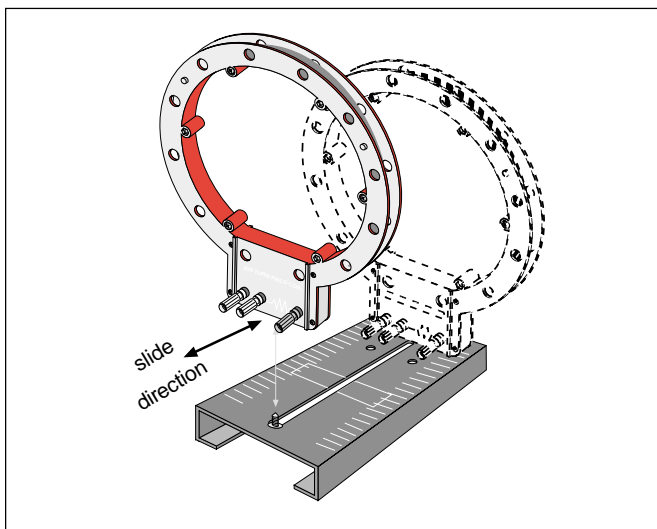

Figure 2: Attaching the adjustable coil
2. Attach the second coil to the cap screw provided in the center slot on the base, and slide it to the desired position. Then secure the mount firmly against the top surface of the base. (See Figure 2.)